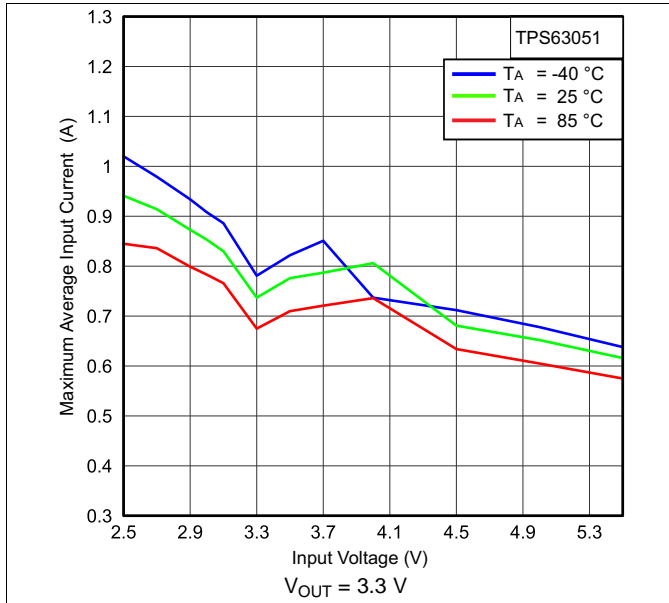
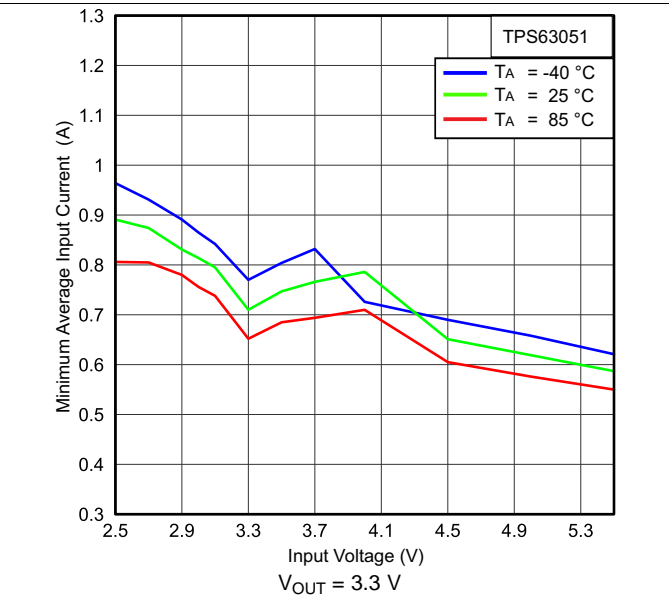

Figure 1. Maximum Average Input Current vs Input Voltage
Figure 2. Minimum Average Input Current vs Input Voltage
(1) For minimum and maximum output current in a specific working point see Figure 1 and Figure 2; and Equation 1 through Equation 4.
(2) Conditions: $f = 2.5\text{ MHz}$, $L = 1.5\text{ }\mu\text{H}$, $C_{OUT} = 10\text{ }\mu\text{F}$
The TPS6305x devices have an internal user programmable current limit that monitors the input current during start-up. This prevents high inrush current protecting the device and the application. During start-up the input current does not exceed the current limit that is set by I_{LIM0} pin and I_{LIM1} pin. Depending on the logic level applied at these two pins, switching between four different current limit-levels is possible. The variation of those values over input voltage and temperature is shown in Figure 1 through Figure 31. Adjusting the soft-start time further using the soft-start capacitor is possible.
Given the curves provided in Figure 1 through Figure 31, calculating the output current in the different condition in boost mode is possible using Equation 1 and Equation 2 and in buck mode using Equation 3 and Equation 4.
- I_{IN} = Minimum average input current (Figure 2 to Figure 31)